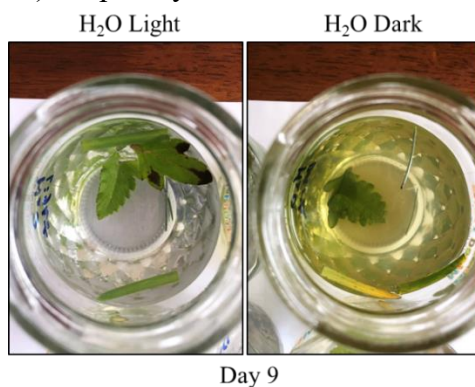

Figure 12. Detached leaves after 9 days' incubation in water under light or in the dark.
1. Compare images and morphology of detached leaves in “**H₂O Light**” and “**H₂O Dark**”. Leaves under which treatment showed signs of senescence and damage (leaf yellowing, translucent leaf blades, brown necrotic spots) first? Which aqueous solution showed yellowing (sign of chloroplast breakage and chlorophyll leakage) first? Use images you took yourself and leaf morphology you observed to support your answer (Exemplary images are shown in **Figure 12** below). Explain your observations.